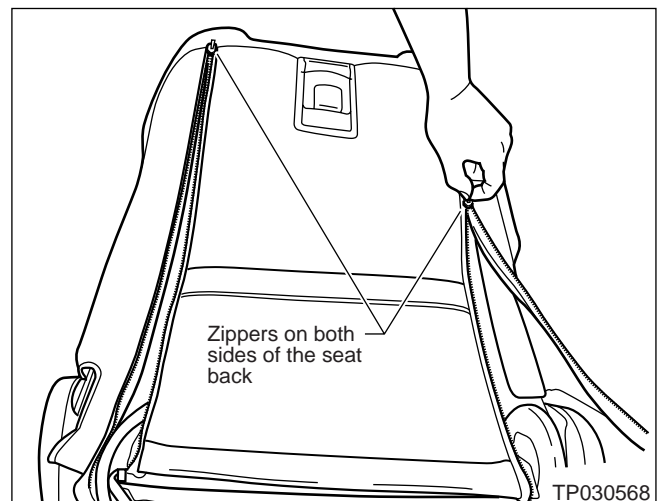

Figure 3
5. Completely unzip the two zippers on the seat back (see Figure 3).